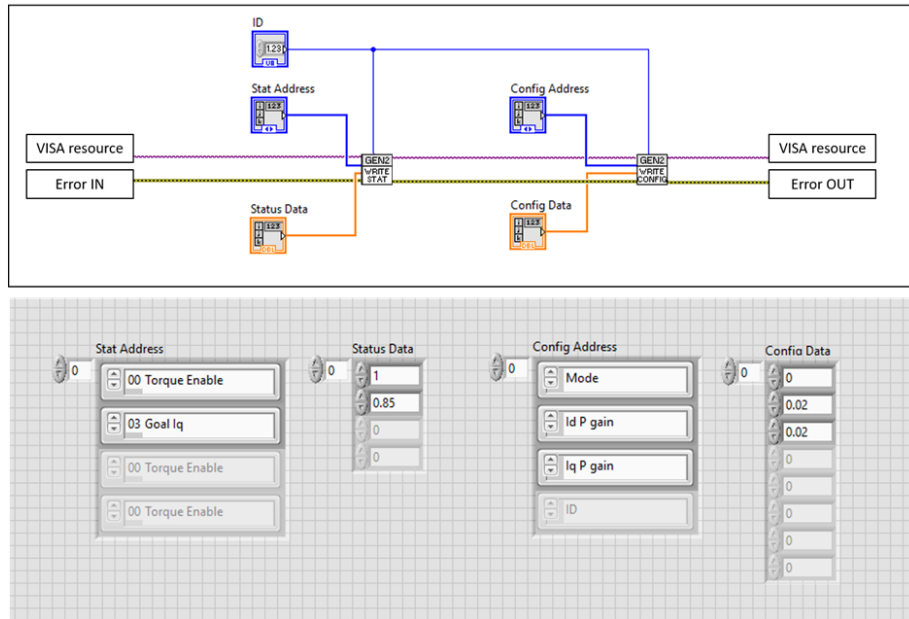

Figure 17: Write to BEAR.
- 2) **Write to BEAR** You can write to supported configure and status registers by respectively using the *Write.Config* and *Write.Stat* subVIs, as shown in figure 17.
registers can be written at once as shown in figure 17.